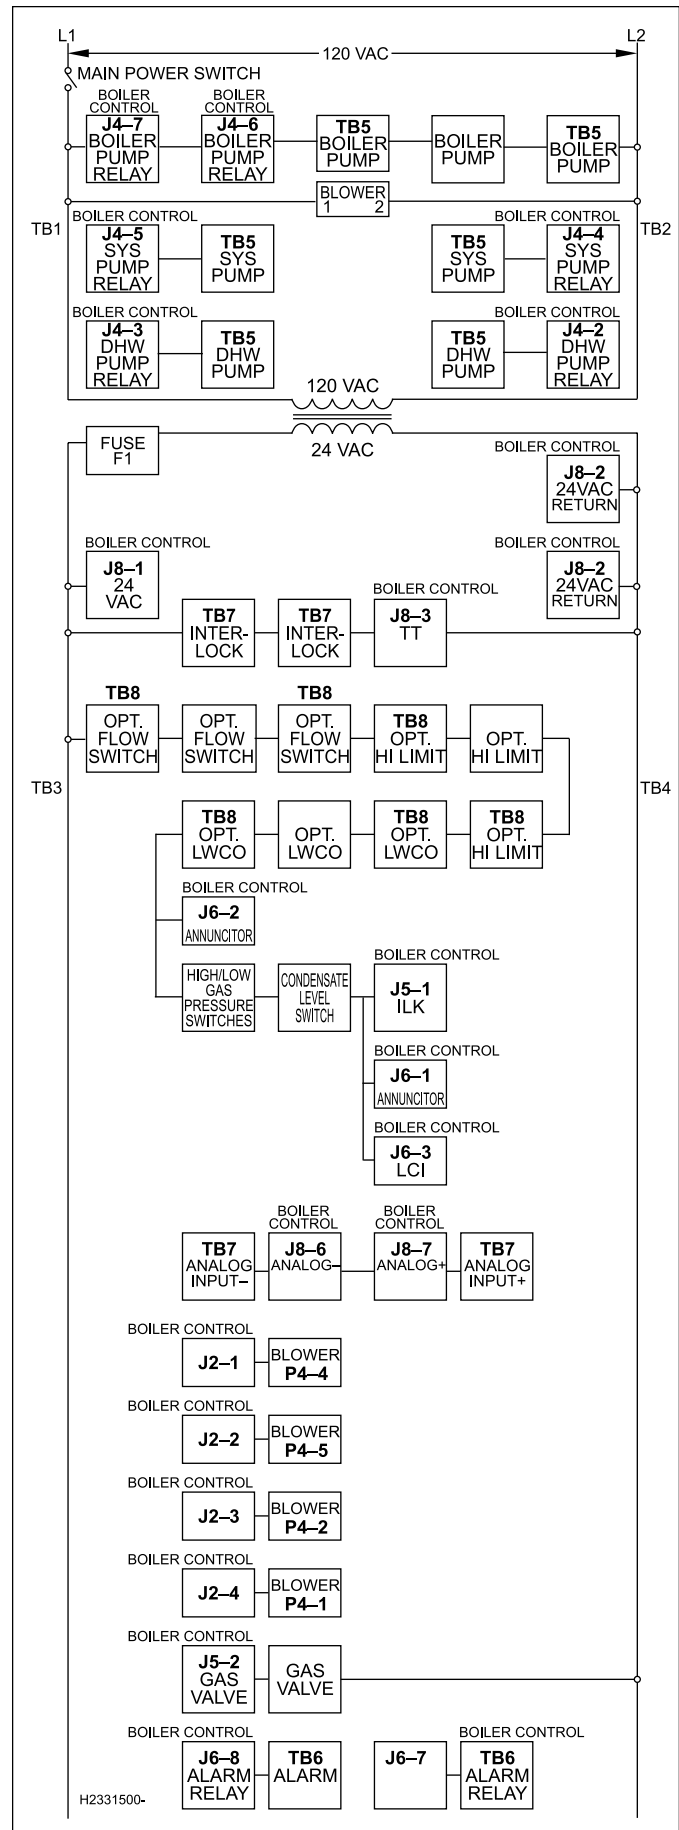

Figure 19. Ladder Diagram.
5.8 Wiring Diagram (see Figures 19 and 20)